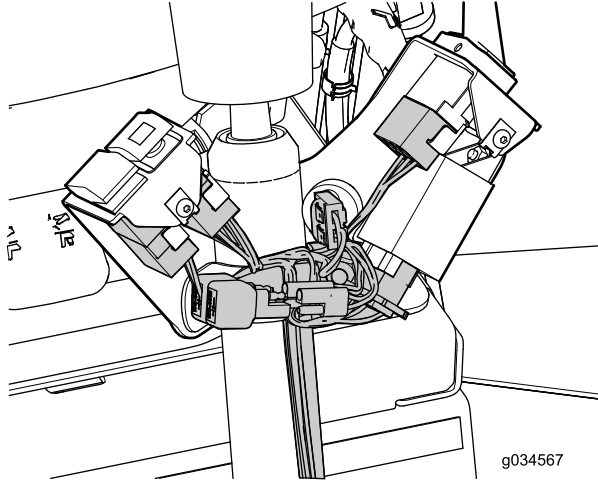

Figure 22
9. Plug the connectors into the flasher module, horn, turn signal, and hazard switches (Figure 22).